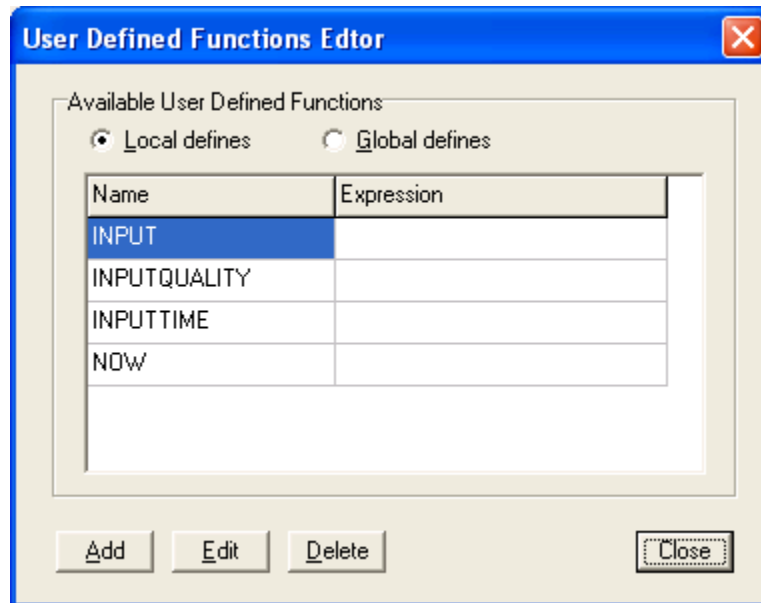

Figure 55 - User Defined Functions Editor
13. If required, from the **Select variable** window, click on the **Modify variables** button to access the **User Defined Functions Editor** (Figure 55) which allows you to add, change, or delete variables.